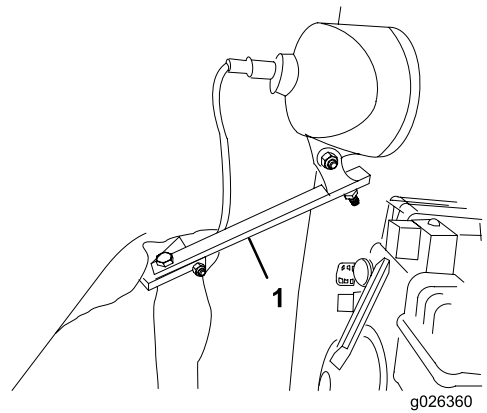

Figure 11
3. Install the headlight extension bar with a bolt (5/16 x 3/4 inch) and a flange locknut (5/16 inch) and secure the headlight to the bar (Figure 11).